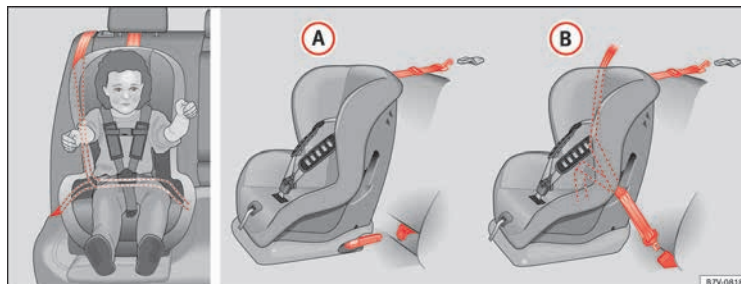

Fig. 31 On the rear seats: Possible installations for the child seat.
Figure » Fig. 31 (A) shows the basic child restraint system mounting using lower retaining rings and the upper retaining strap. Figure » Fig. 31 (B) shows the child restraint system mounting using the vehicle seat belt.